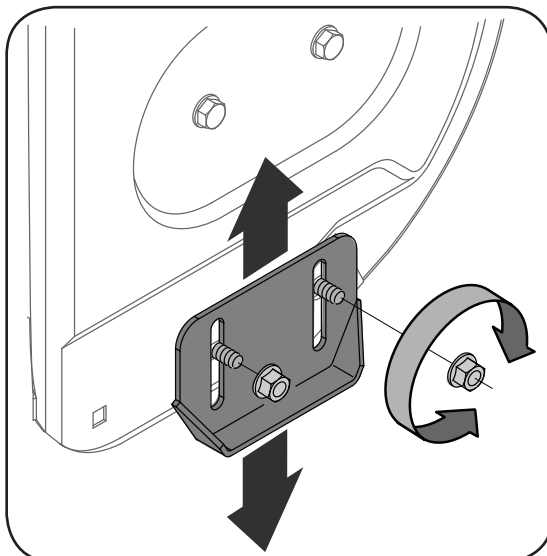

Figure 12
1. Adjust skid shoes by loosening the four lock nuts and carriage bolts and moving skid shoes to desired position. See Figure 12.